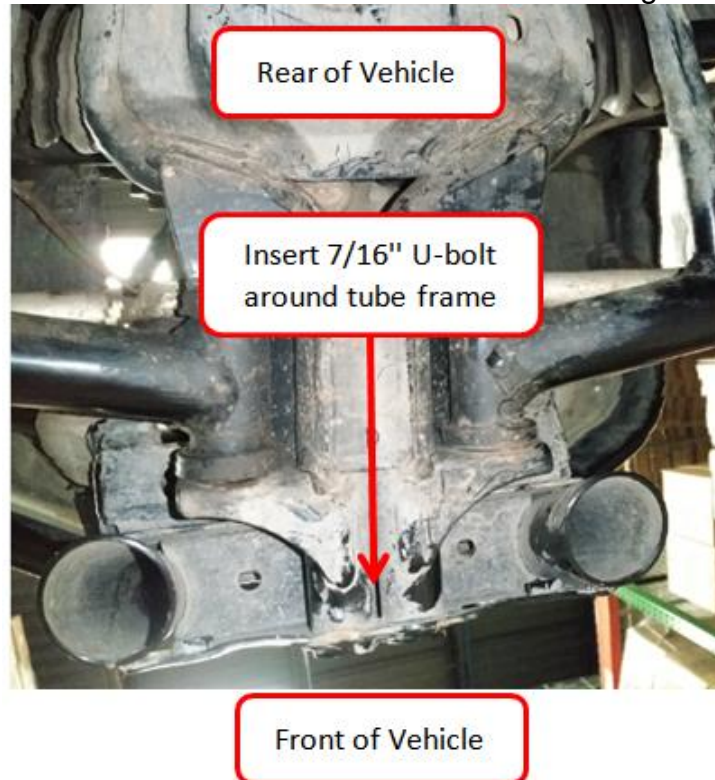

Figure 5
3. Insert the 7/16" U Bolt over the front tube frame shown in Figure 5.